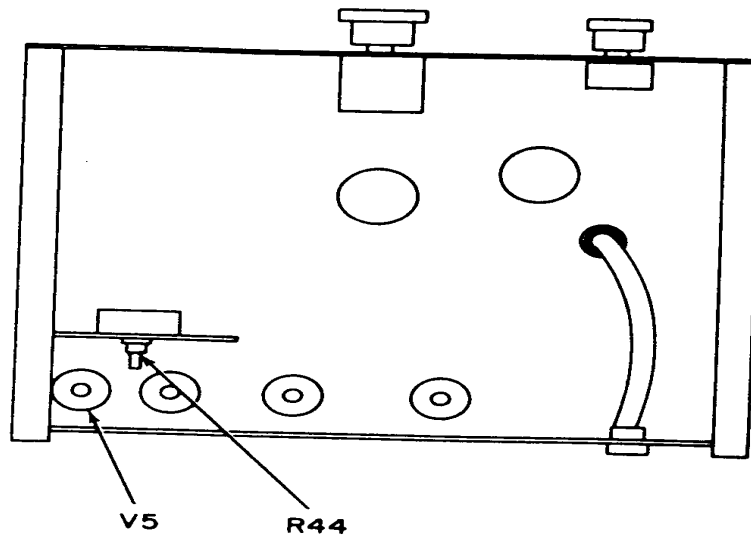

Figure 4. Model 415A-bottom view.
a. Performance Check. Connect dc voltmeter (A4) between pin 8 of V5 (fig. 4) and chassis ground, using probe (B6). If dc voltmeter does not indicate between 232.8 and 247.8 V dc, perform **b** below.
- b. Adjustments.** Adjust R44 (fig. 4) until dc voltmeter indicates 240 V dc (R).